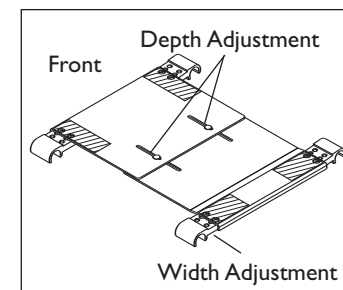

Figure 2
- Reposition seat pan to the desired length (Figure 2), and reattach the lock nuts.